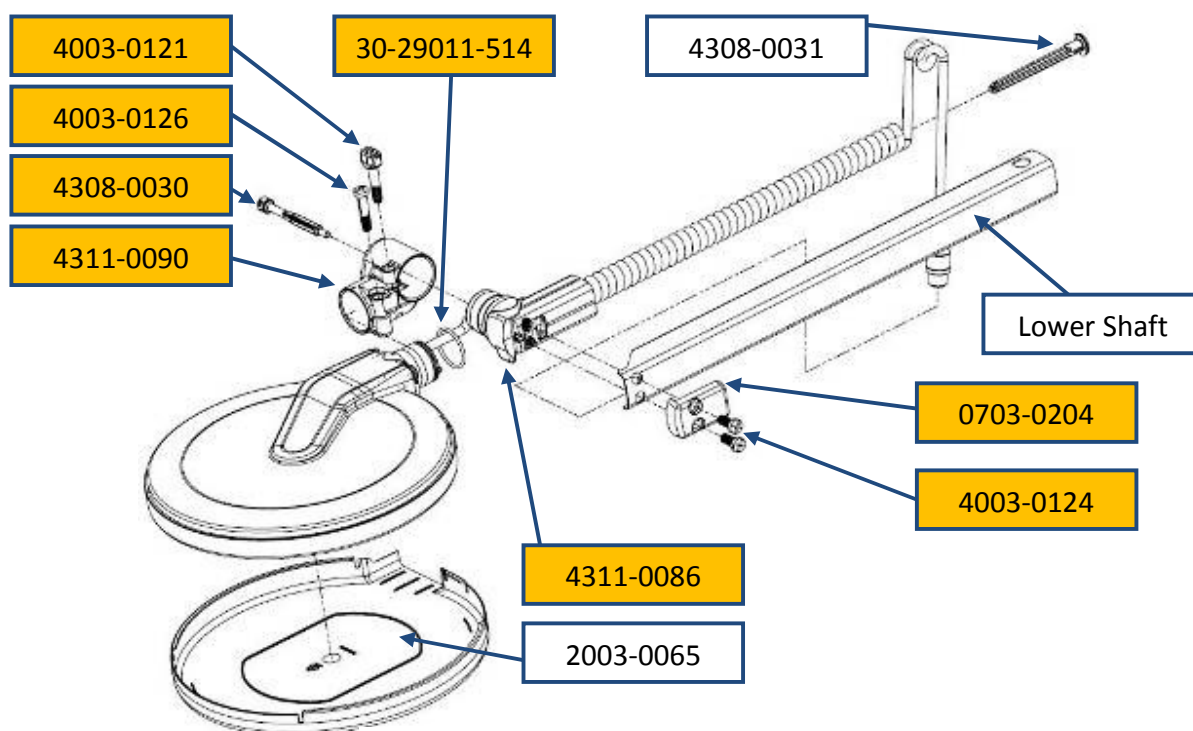

Figure 44: Parts of the Coil
a. The coil is a line replaceable unit (LRU) and figure 44 illustrates the major parts of the coil. 3004-0135 Coil Kit , is a service kit containing the coil and associated parts. 3004-0130 Coil Pivot Kit is an LRU and is included in the 3004-0135 Coil Kit LRU. All parts are available individually.